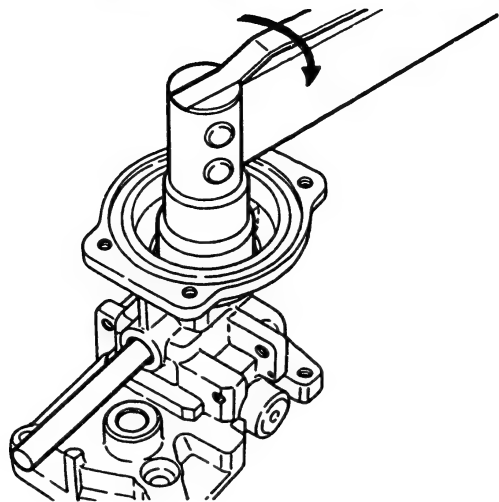

Fig. 30 Tightening the locknut
2. Tighten the locknut (67/33) to fix the screw bushing (67/31) and the lock plate (67/32) to the specified torque, while using the special tool (KDEP 2617) to ensure that the screw bushing does not move from the above position. (Fig. 30).